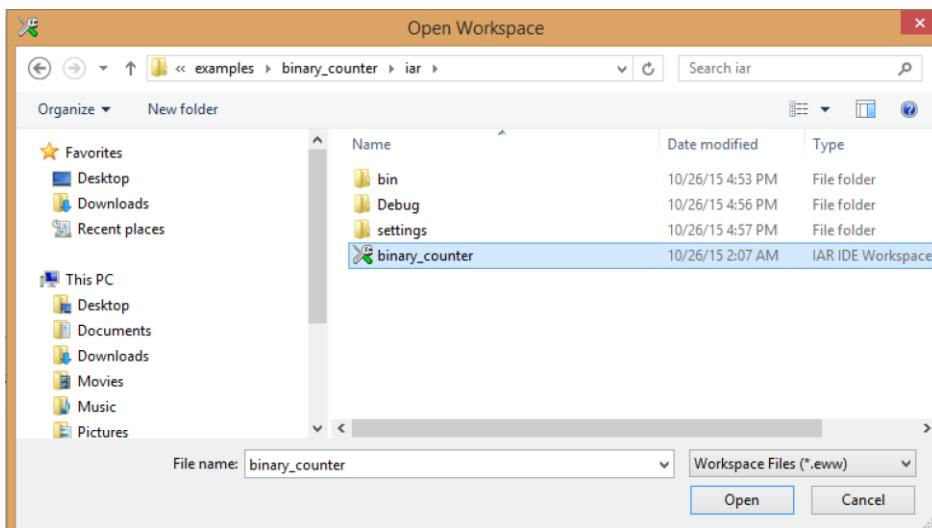

Figure 55: IAR Project folder for example ‘binary\_counter’
- Double click on the IAR IDE Workspace file as shown in the figure 55 to open this projects using IAR.